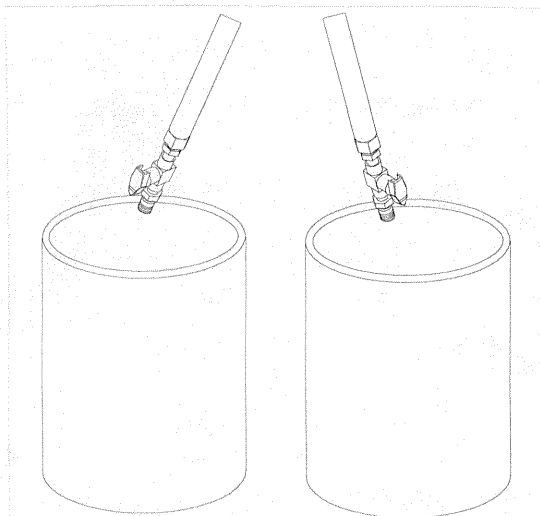

Fig. 3
BOTH MATERIAL SHUT-OFF VALVES, P/N PG-15, MUST BE TURNED TO THEIR "OFF" POSITION AND MATERIAL PRESSURE RELIEVED TO ZERO BEFORE DISASSEMBLY OF ANY COMPONENTS LOCATED IN THE FRONT HEAD. See Figure 3.
5. Slide Air Valve forward and turn Ball Valves on. (See figure3.)